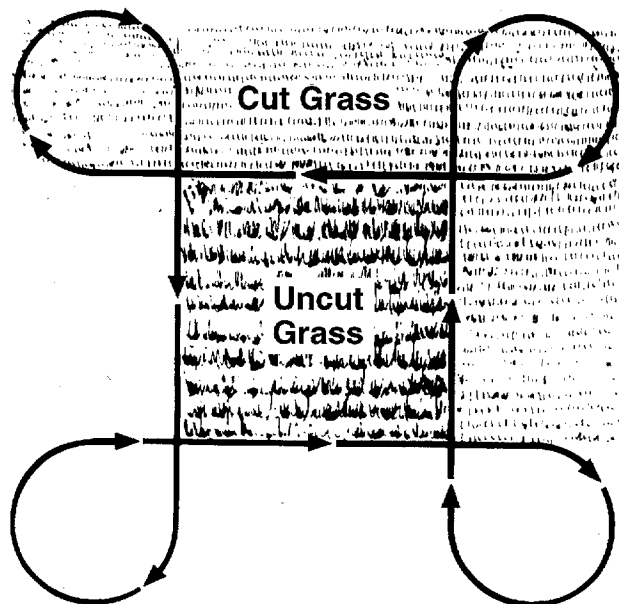

Figure 62
4. Follow the mowing pattern shown in Figure 62.